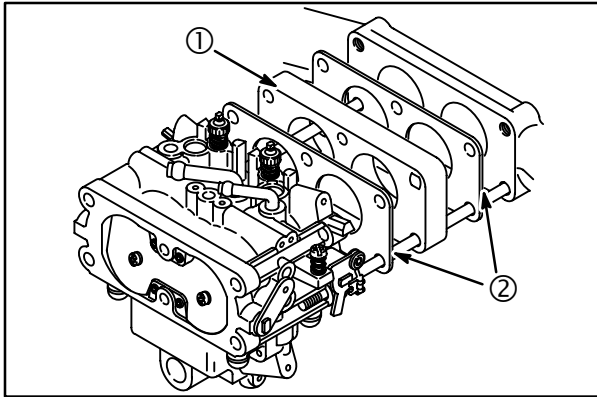

Fig. 24
1. Assemble gaskets (2) and spacer (1) to intake manifold.
- Assemble carburetor onto mounting studs, **Fig. 24.**